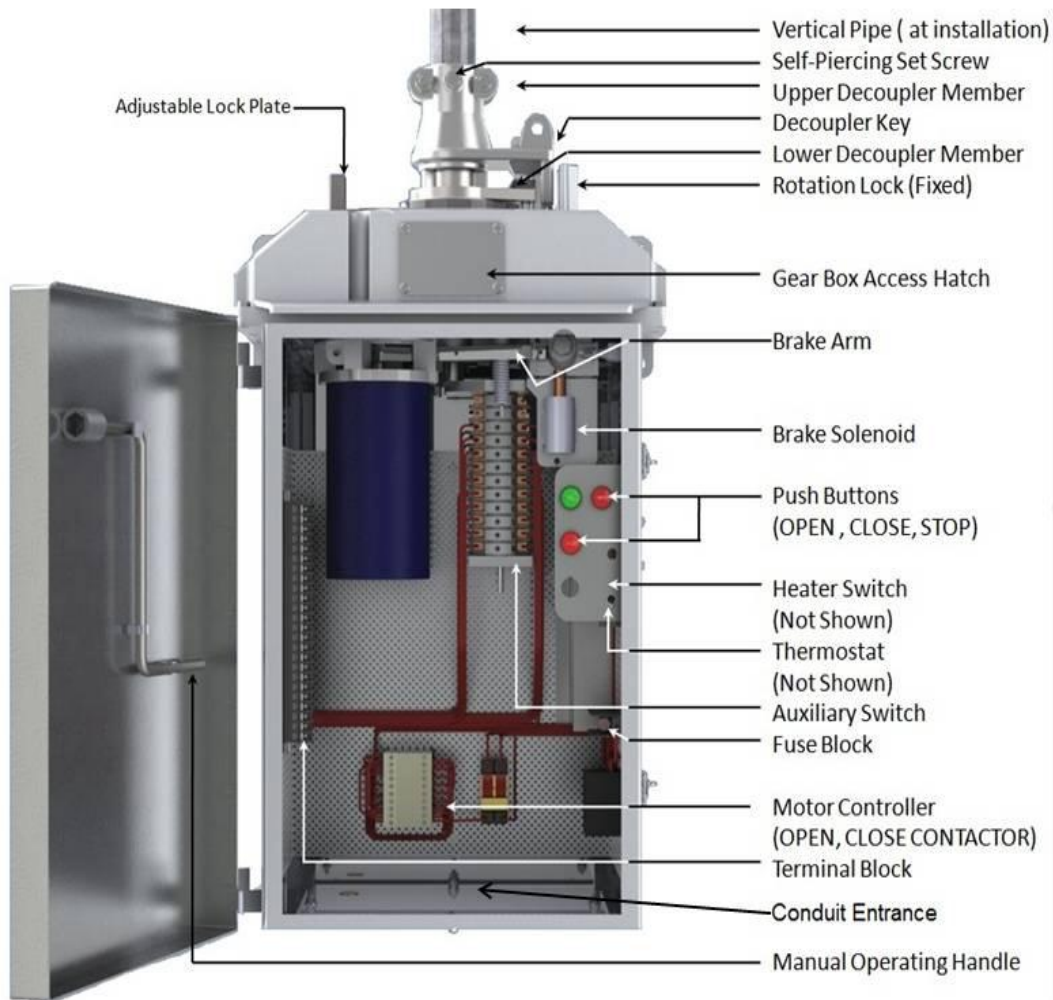

Figure 1 - Part Identification
| Figure 1 - Part Identification | 4 |
The static brake is an electro-mechanical mechanism comprised of a brake pad, brake arm, spring and solenoid. The spring provides the mechanical force necessary to depress the brake and keep the motor operator from turning. When the motor is energized, the brake solenoid, seen in Figure 1, depresses the spring thereby releasing the brake and allowing the motor operator to function.
2. Decouple as shown in Figure 3 and connect the VM-1 mechanism for electrical operation as shown on the wiring diagram drawing. Refer to Figure 1 for conduit entry into the cabinet.